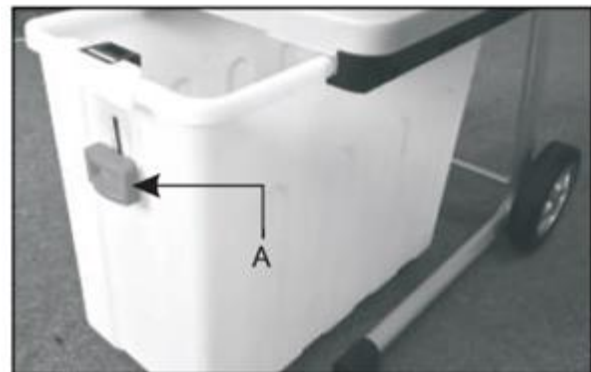

Fig. 2
- Press down the lock button(A) and then insert the collection box into the undercarriage.(Fig.2)
- Press the lock button (A) totally upward!
- Press down the lock button (A) (Fig.2).